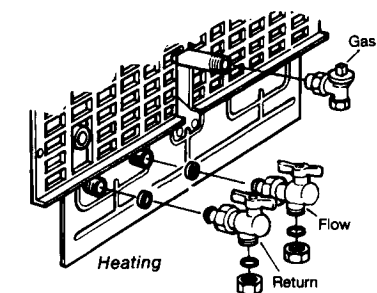

Fig. 12
- 5.3.4 Loosely fit (hand tight) the valves and fittings using the washers supplied (Fig 12)
- 5.6.1 Figs. 12 and 16 show the locations of the fittings.